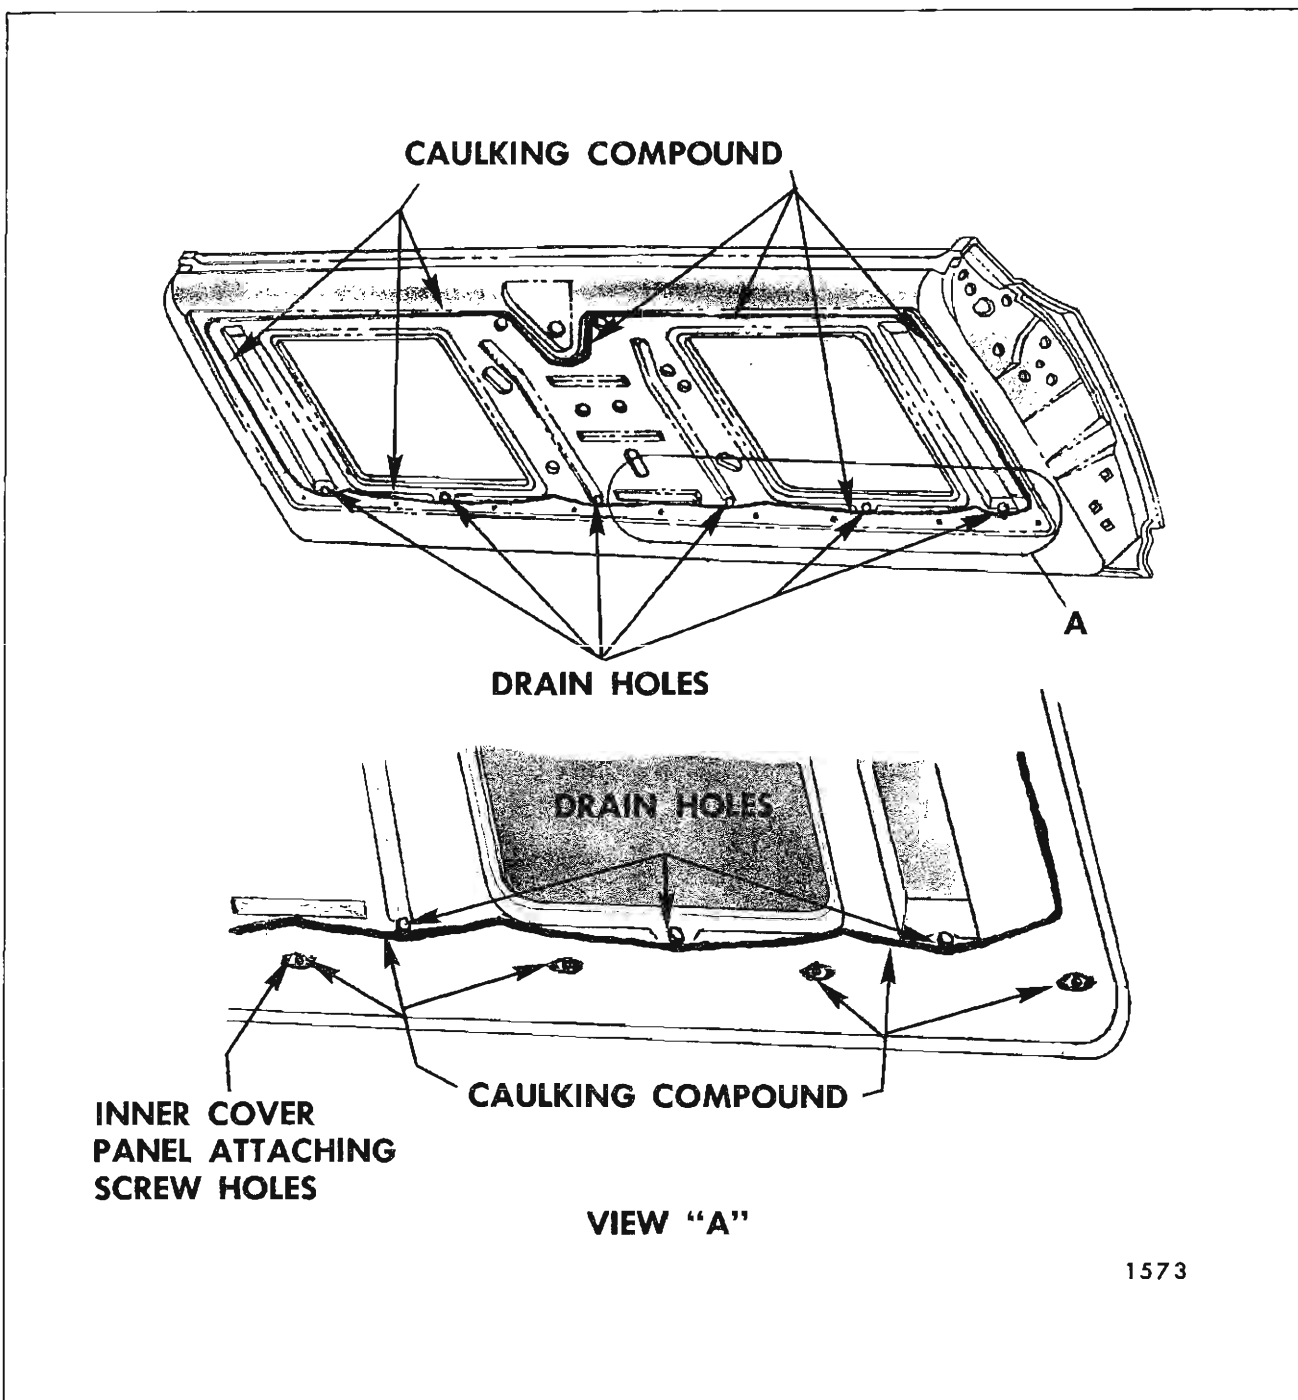

Fig. 9-36—Tail Gate Sealing
3. If needed, apply a bead of body caulking compound (approximately 3/16" diameter) to tail gate inner panel (See Fig. 9-36). The inner panel cover attaching screw holes should also be sealed with body caulking compound.